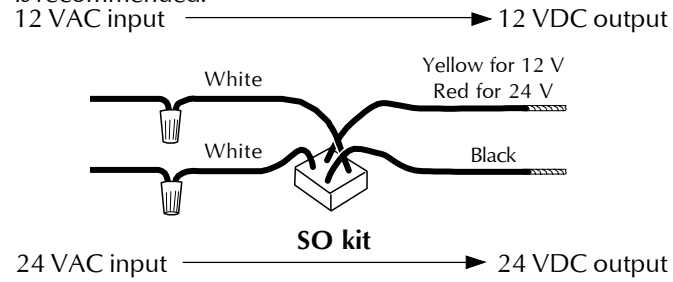

Figure 4
6. When using 12 VAC or 24 VAC power, install SO kit to convert AC power to DC (Figure 4).